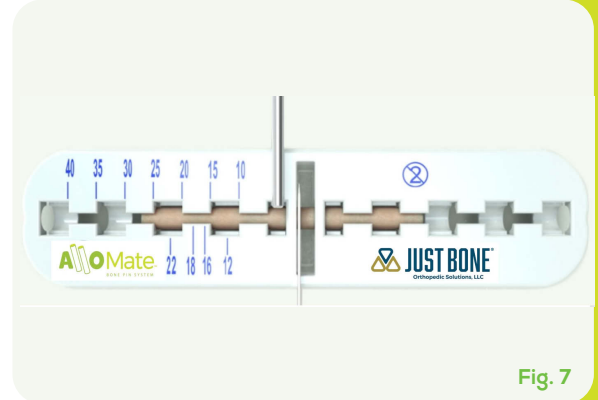

Fig. 7
- 7 The AlloMate Bone Pin is to be cut to the appropriate length using a power saw. Use the Measurement Cutting Device as a guide to cut the AlloMate Bone Pin to the length determined in step #6. The Tamp may be used to hold the AlloMate Bone Pin during cutting. (**Fig. 7**)